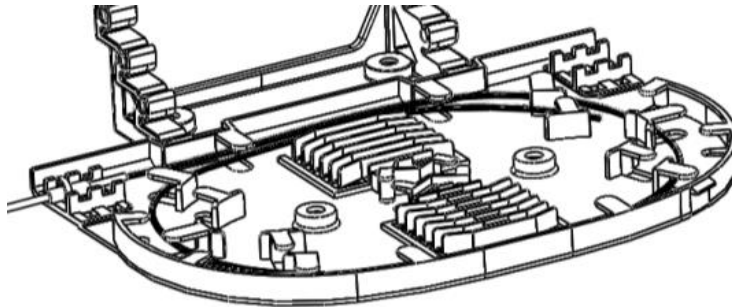

Fig. 22
3.6.9. Route the fibers in the tray and cut off the tie-wrap excess (Fig.22)